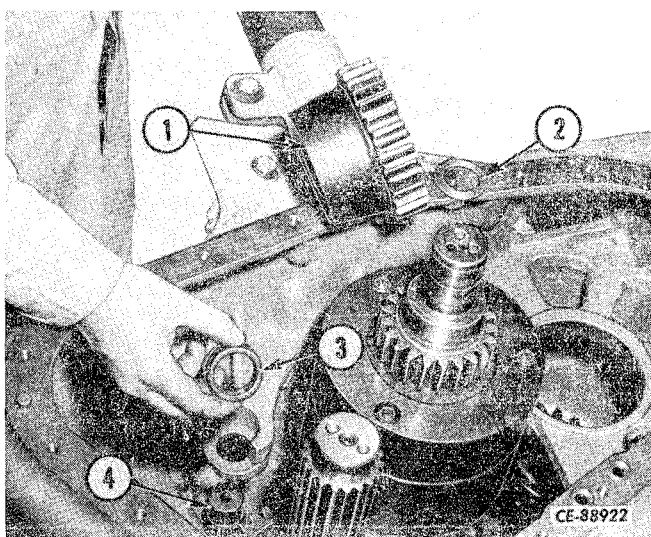

Figure 4-69
Place a bearing race (3, Fig. 4-69) in the hub side of the reverse idler gear assembly (1). Position the reverse idler gear in the trans-